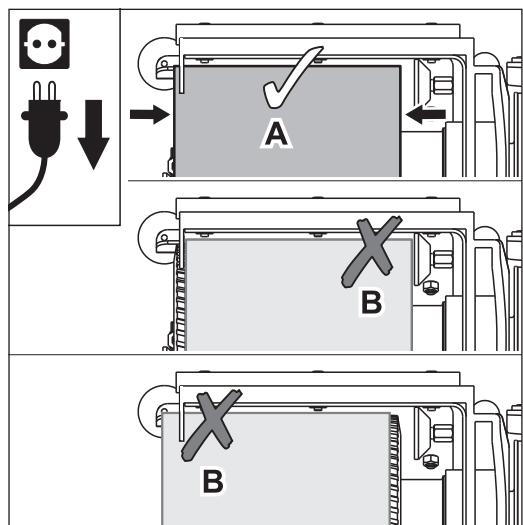

Fig. 10 Position the sanding belt so that it evenly covers the sanding drum (A). **Avoid position B without fail (FIRE DANGER)!**
- 10 Position the sanding belt so that it evenly covers the sanding drum (Fig. 10, A).
Position B of the sanding belt in Fig. 10 provoke sparking during sanding (FIRE DANGER)! Avoid this without fail!